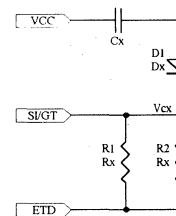

Figure 1.
Before registration of a decoded tone pair, the receiver checks for a valid signal duration (referred to as character recognition condition). This check is performed by an external RC time constant driven by ETD. A logic high on ETD causes  $V_{cx}$  (Fig. 1, 2) to rise as the capacitor discharges. Provided signal condition is maintained (ETD remains high) for the validation period ( $T_{12}$ )  $V_{cx}$  reaches the threshold (ETD) of the steering logic to register the tone pair, latching its corresponding 4-bit code into the output latch. At this point the GT output is activated and drives  $V_{cx}$  to  $V_{cc}$ . GT continues to drive high as long as ETD remains high. Finally, after a short delay to allow the output latch to settle, the delayed steering output flag STD goes high, signaling that a received tone pair has been registered.
- Decreasing  $T_5$  ( $T_4 > T_5$ ) Fig. 1